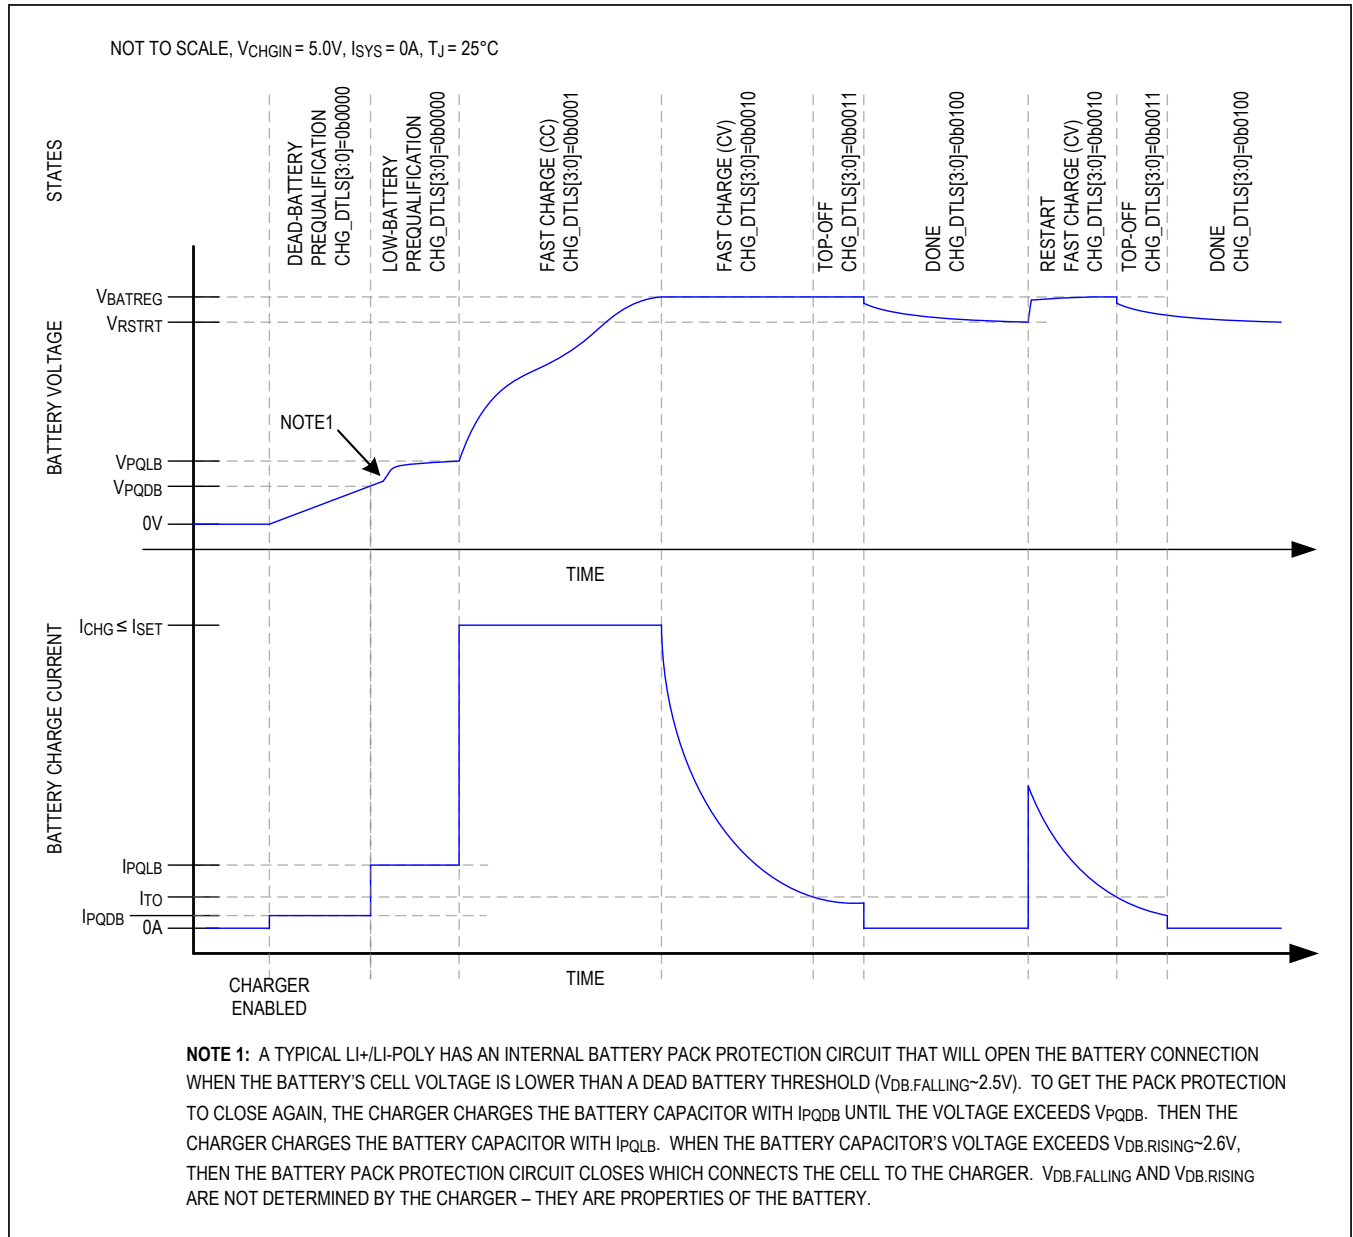
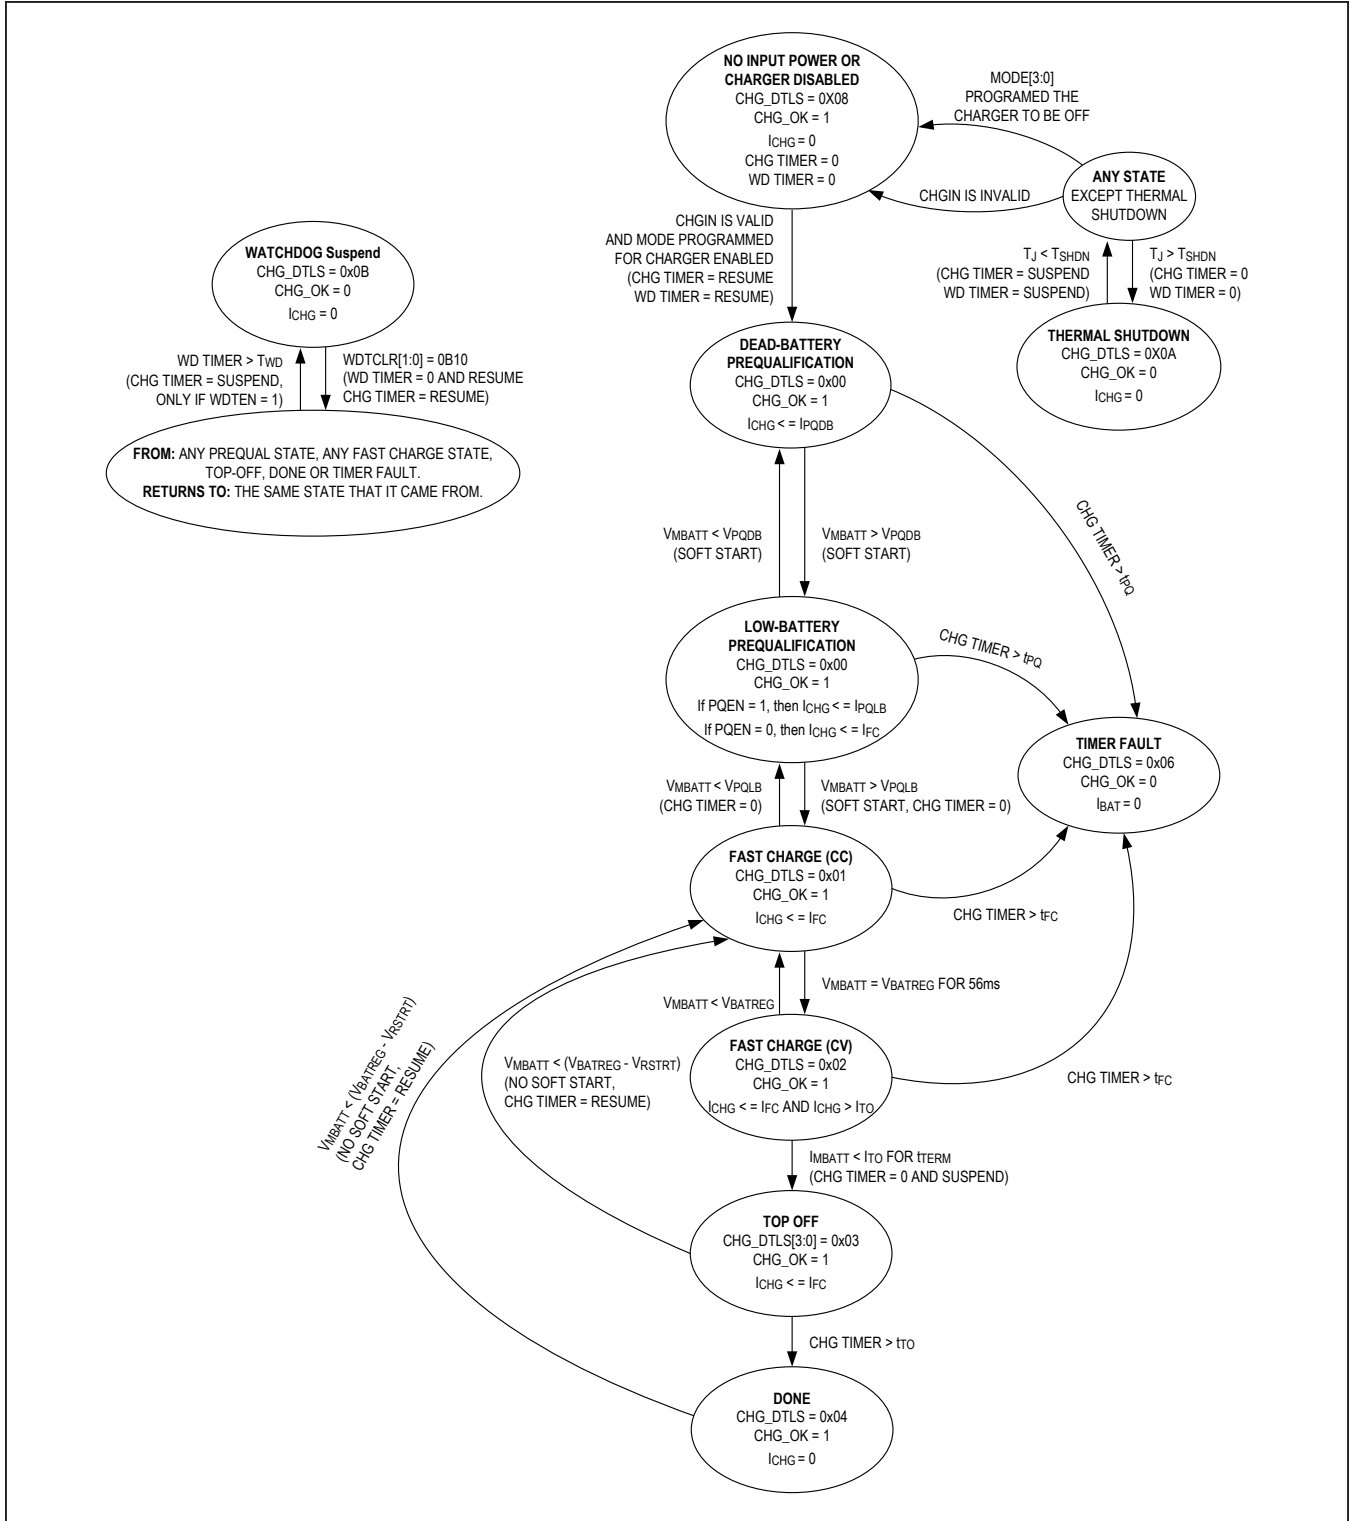

Figure 6. Li+/Li-Poly Charge Profile
Figure 7. Charger State Diagram
The MAX77818 utilizes several charging states to safely and quickly charge batteries as shown in Figure 6 and Figure 7. Figure 6 shows an exaggerated view of a Li+/Li-Poly battery progressing through the following charge states when there is no system load and the die and battery are close to room temperature: daed battery/low battery prequalification → fast-charge → top-off → done.
From any state shown in Figure 7 except thermal shutdown, the no input power or charger disabled state is entered whenever the charger is programmed to be off or the charger input CHGIN is invalid. After being in this state for  $t_{SCIDG}$ , a CHG\_I interrupt is generated, CHG\_OK is set, and CHG\_DTLS[3:0] is set to 0x08.
As shown in Figure 7, the dead battery prequalification state occurs when the main battery voltage is less than  $V_{PQDB}$ . After being in this state for  $t_{SCIDG}$ , a CHG\_I interrupt is generated, CHG\_OK is set, and CHG\_DTLS[3:0] is set to 0x00. In the dead battery prequalification state, charge current into the battery is  $I_{PQDB}$ .
As shown in Figure 7, the fast-charge constant current (CC) state occurs when the main battery voltage is greater than the low battery prequalification threshold and less than the battery regulation threshold ( $V_{PQLB} < V_{BATT} < V_{BATREG}$ ). After being in the fast-charge CC state for  $t_{SCIDG}$ , a CHG\_I interrupt is generated, CHG\_OK is set and CHG\_DTLS[3:0] = 0x01.
As shown in Figure 7, the fast-charge constant voltage (CV) state occurs when the battery voltage rises to  $V_{BATREG}$  from the fast-charge CC state. After being in the fast-charge CV state for  $t_{SCIDG}$ , a CHG\_I interrupt is generated, CHG\_OK is set, and CHG\_DTLS[3:0] = 0x02.
In the fast-charge CV state, the battery charger maintains  $V_{BATREG}$  across the battery and the charge current is less than or equal to  $I_{FC}$ . As shown in Figure 6, charger current decreases exponentially in this state as the battery becomes fully charged.
As shown in Figure 7, the top-off state can only be entered from the fast-charge CV state when the charger current decreases below  $I_{TO}$  for  $t_{TERM}$ . After being in the top-off state for  $t_{SCIDG}$ , a CHG\_I interrupt is generated, CHG\_OK is set, and CHG\_DTLS[3:0] = 0x03. In the top-off state, the battery charger tries to maintain  $V_{BATREG}$  across the battery and typically the charge current is less than or equal to  $I_{TO}$ .
As shown in Figure 7, the battery charger enters its done state after the charger has been in the top-off state for  $t_{TO}$ . After being in this state for  $t_{SCIDG}$ , a CHG\_I interrupt is generated, CHG\_OK is cleared, and CHG\_DTLS[3:0] = 0x04.
The battery charger provides both a charge timer and a watchdog timer to ensure safe charging. As shown in Figure 7, the charge timer prevents the battery from charging indefinitely. The time that the charger is allowed to remain in each of its prequalification states is  $t_{PQ}$ . The time that the charger is allowed to remain in the fast-charge CC and CV states is  $t_{FC}$ , which is programmable with FCHGTIME. Finally, the time that the charger is in the top-off state is  $t_{TO}$ , which is programmable with TO\_TIME. Upon entering the timer-fault state, a CHG\_I interrupt is generated without a delay, CHG\_OK is cleared, and CHG\_DTLS = 0x06.
In the timer-fault state the charger is off. The charger can exit the timer-fault state by programming the charger to be off and then programming it to be on again through the MODE bits. Alternatively, the charger input can be removed and reinserted to exit the timer-fault state. See the any state bubble in the upper right of Figure 7.
The battery charger provides both a charge timer and a watchdog timer to ensure safe charging. As shown in Figure 7, the watchdog timer protects the battery from charging indefinitely in the event that the host hangs or otherwise cannot communicate correctly. The watchdog timer is disabled by default with  $WDTEN = 0$ . To use the watchdog timer feature, enable the feature by setting  $WDTEN$ . While enabled, the system controller must reset the watchdog timer within the timer period ( $t_{WD}$ ) for the charger to operate normally. Reset the watchdog timer by programming  $WDTCLR = 0x01$ .
As shown in Figure 7, the thermal-shutdown state occurs when the battery charger is in any state and the junction temperature ( $T_J$ ) exceeds the device's thermal-shutdown threshold ( $T_{SHDN}$ ). When  $T_J$  is close to  $T_{SHDN}$ , the charger has folded back the input current limit to 0A so the charger and inputs are effectively off. Upon entering this state,  $CHG\_I$  interrupt is generated without a delay,  $CHG\_OK$  is cleared, and  $CHG\_DTLS[3:0] = 0x0A$ .